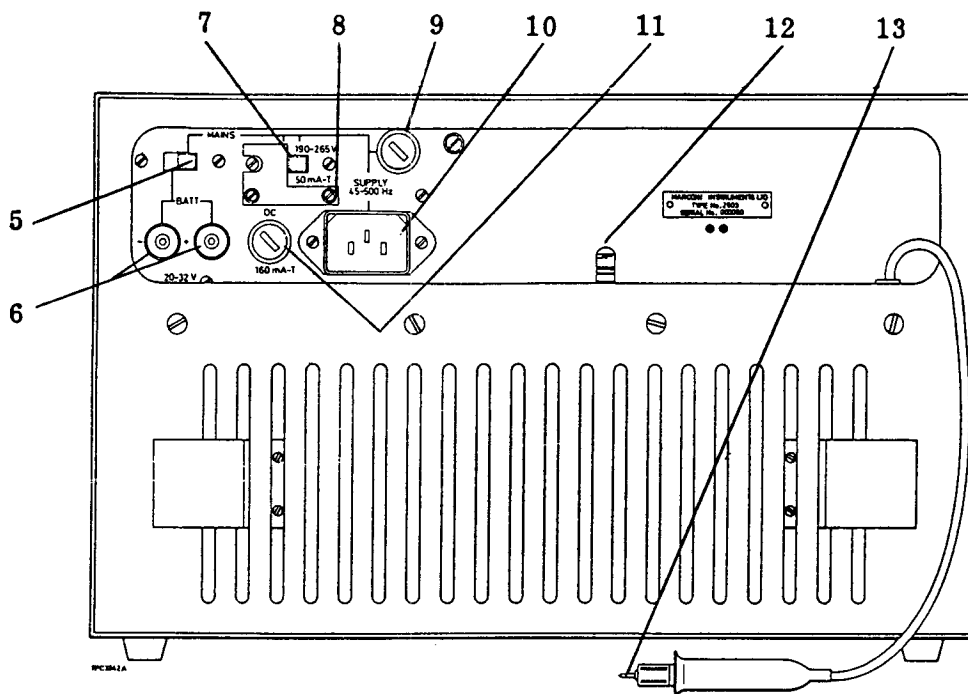

Fig. 2 Controls and connectors on rear panel
2. The controls and connectors on the rear panel of the voltmeter (Fig. 2) are as follows:-
(5) MAINS/BATTERY switch. Set to position appropriate to supplies being used.
(6) BATTERY supply terminals.
(7) MAINS supply range switch. Selects a.c. voltage range.
(8) BLANKING plate. For securing the mains supply range switch in the selected position.
(9) AC FUSE. Value determined by a.c. supply voltage : 50 mA for 190 V to 265 V, 100 mA for 95 V to 132 V.
(10) MAINS supply plug. For connecting the a.c. supply by means of the mains lead.
(11) DC FUSE. 160 mA. Connected by mains/battery switch to battery supply or rectified a.c. supply line.